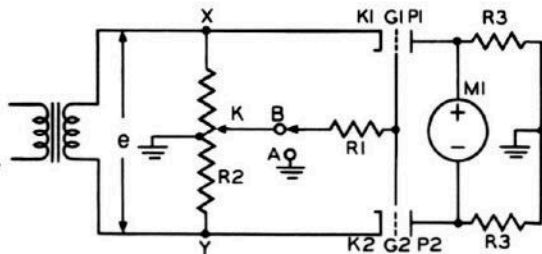

Figure 2-6. Simplified Schematic Diagram, Meter Balancing Circuit
e. The action of the meter circuit is illustrated by figure 2-6. Let grid resistor R-1 be grounded at point A and supply an ac potential,  $e$ , across cathodes K-1 and K-2. As both plates are normally at ground potential, conduction will occur only when cathode potentials are negative with respect to ground. With the circuit arrangement illustrated, opposite halves of the tube will conduct on alternate half-cycles of applied voltage.
(1) During the first half-cycle of applied voltage the plate of the conducting triode will be negative with respect to the non-conducting triode and current will flow through meter M-1. On the second half-cycle the polarity of the plates will be reversed and the direction of current flow through meter M-1 will be reversed. By adjusting the ground contact on potentiometer R-2 the potential drop across meter M-1 can be made equal and opposite for each half cycle of applied voltage  $e$ . The average current flow, being the algebraic sum of the currents during each half cycle, will then be zero and the meter M-1 will read zero.
(2) Let resistor R-1 be connected to slide contact K and balance will be maintained only when K is at ground potential. Moving K towards Y will decrease the potential difference between grid G-2 and cathode K-2 while increasing the potential difference between grid G-1 and cathode K-1. This is equivalent to saying that, relative to ground, the potential applied to grid G-2 is in phase with the potential applied to cathode K-2 while the voltage